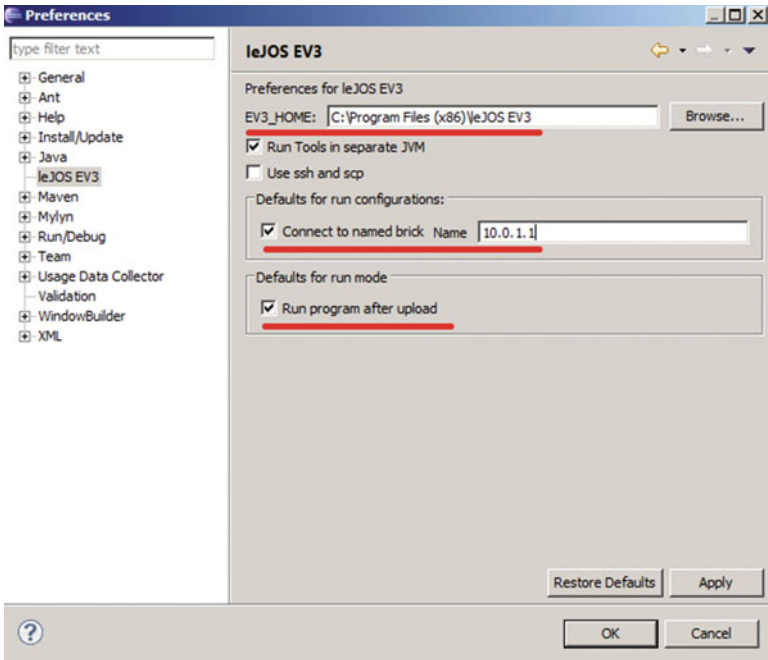

Figure 1-23. Preferences for the leJOS EV3 plug-in
6. Eclipse will automatically look for the EV3_HOME environment variable to locate leJOS EV3. Check to make sure that the preferences are what you like. Select Windows -> Preferences and then leJOS EV3 from the list. If the *leJOS EV3* directory is not correct, either type in the location or browse to it. Make sure that you browse to the main directory and not one of its subdirectories. After that, you need to double-check if they are the same as the items illustrated in Figure 1-23.